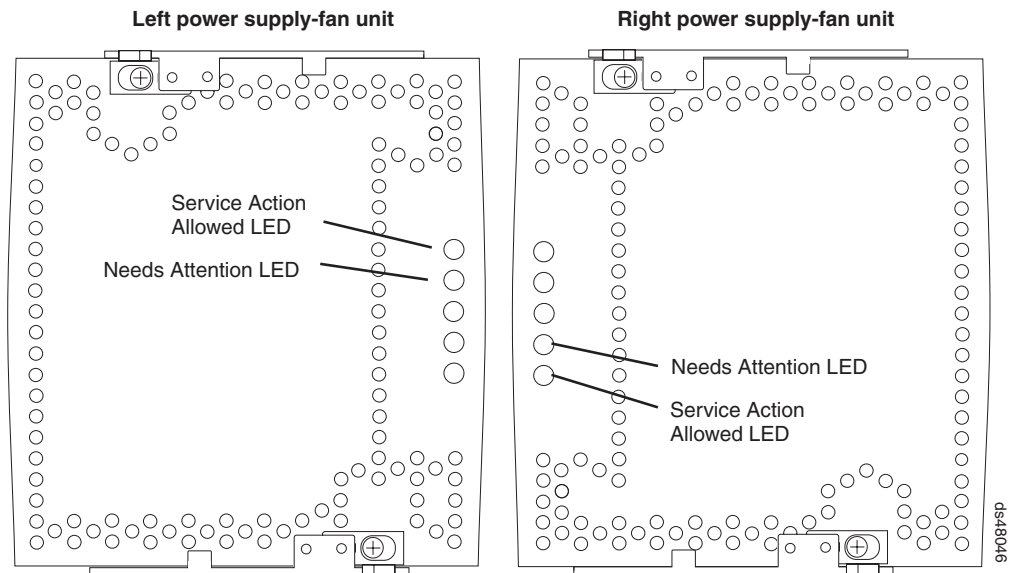

Figure 80. Power supply and fan unit Needs Attention LEDs
5. Check the Needs Attention LED on each power supply and fan unit. (Figure 80 on page 136 shows the left power supply and fan unit Service Action Allowed LED is the top, or first, LED, and the Needs Attention LED is the second LED. On the right power supply and fan unit the Service Action Allowed LED is the bottom, or fifth LED, and the Needs Attention LED is the next, or fourth, LED.)